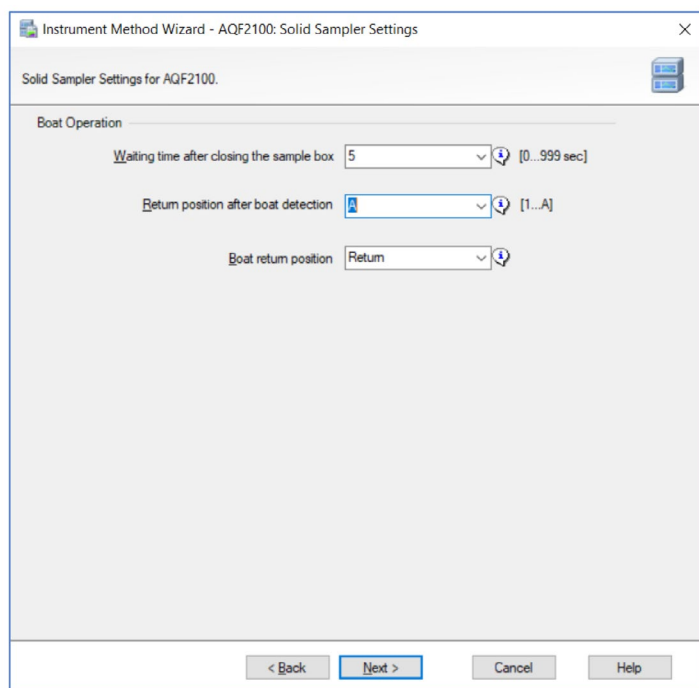

Figure 19. Creating the Instrument Method: Default ASC-270LS Solid Sampler settings
12. For the Nittoseiko ASC-270LS Liquid and Solid Sample Changer module, use the default settings for solids and liquids (Figures 19 and 20).